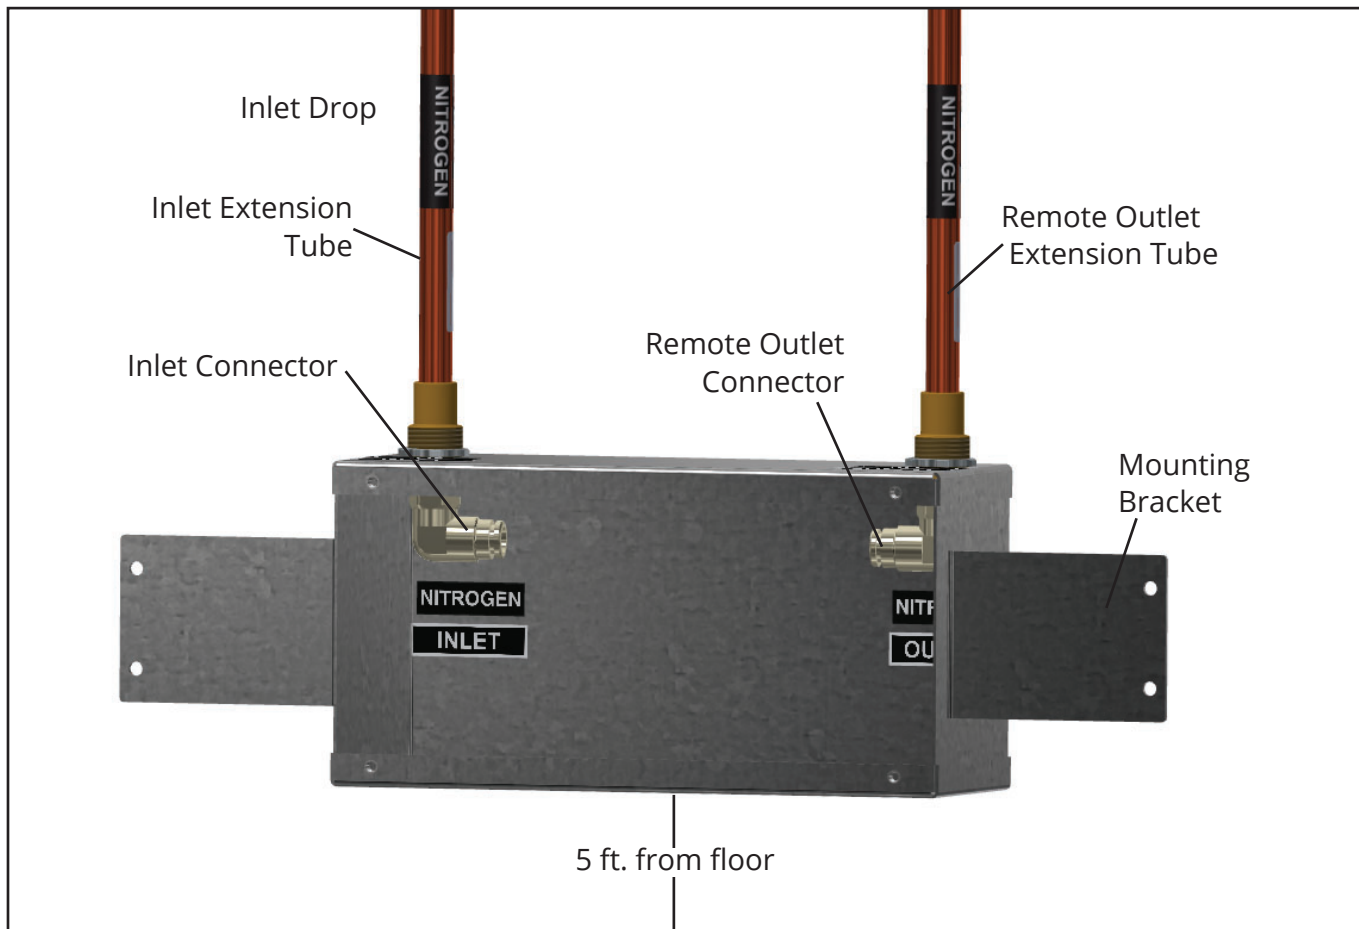

Figure 1
1. Provide rough wall opening of 5" x 10" x 3-3/4" deep to accommodate the mounting box. The bottom of the mounting box shall be five feet from the floor and parallel to the floor (Figure 1). Secure box mounting brackets to vertical wall members or to rigid interconnecting bracing as required. Verify box is firmly anchored in the wall. Position box so front edge will be recessed a minimum of 1/8" below the finished wall surface.
2. Referring to Figure 1, mount inlet extension tube and, if required, remote outlet extension tube into mounting box with provided lock nut